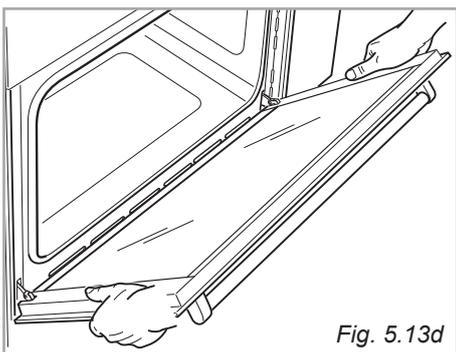

Fig. 5.13d
- Hold the door as shown in fig. 5.13d.